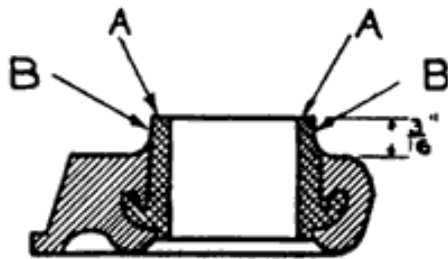

Fig. 282
6. File off tops of cover inserts at "A" (Fig. 282), to a height of $\frac{3}{16}$ inch above the cover. Also remove any roughness on surface "B" caused by pliers when cover was removed.